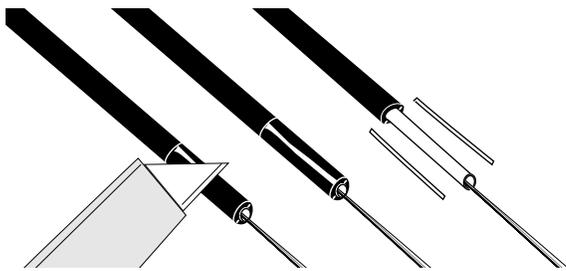

Figure 21
- b) Using extreme care, use a utility knife with a new blade to shave the jacket from the tube from the ring cut to the end of the tube. Remove the section of jacket from the buffer tube (Figure 21).